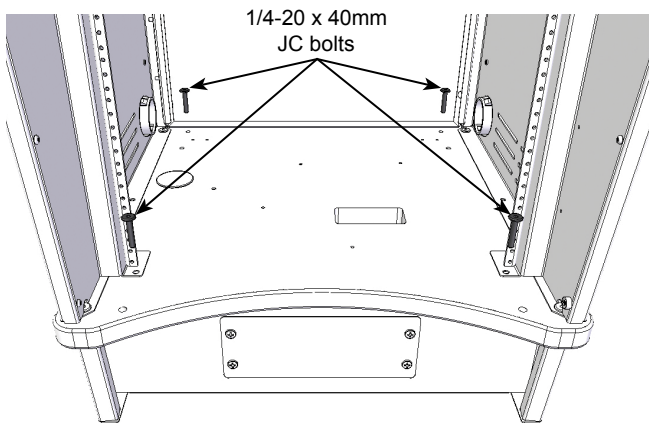

Figure 6
1. If your Inspiration Lectern is equipped with a toe kick, and you wish to attach it to the floor, the toe-kick will need to be detached from the lectern. To detach, remove the (4) 1/4-20 x 40mm JC bolts (one on each corner) from inside the lectern. **Figure 6.** (Save these fasteners).